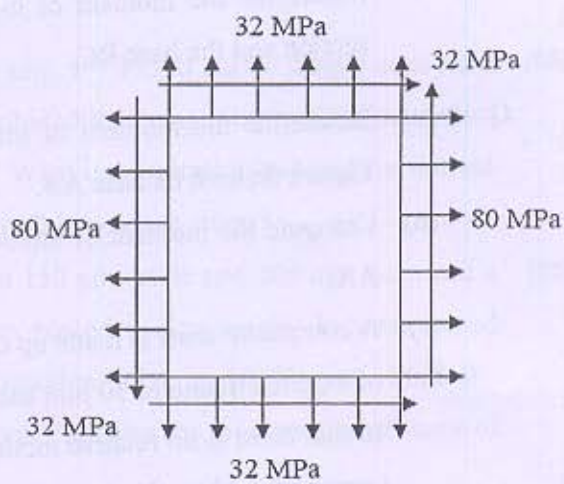

Figure 4
- (c) At a certain point in a strained material, the values of normal stresses across two planes at right angles to each other are 80 MPa and 32 MPa, both tensile and there is a shear stress of 32 MPa clockwise on the plane carrying 80 MPa stress across the planes as shown in Figure 4.